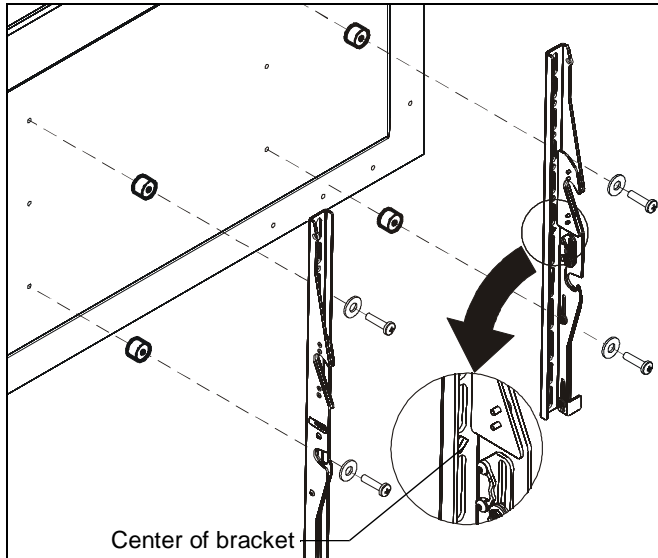

Figure 4
1. Align the center of the bracket with center of screen. (See Figure 4)
2. Select correct screws, spacers (if necessary) and washers from the hardware bag (A-K) and attach brackets to back of screen. (See Figure 4)